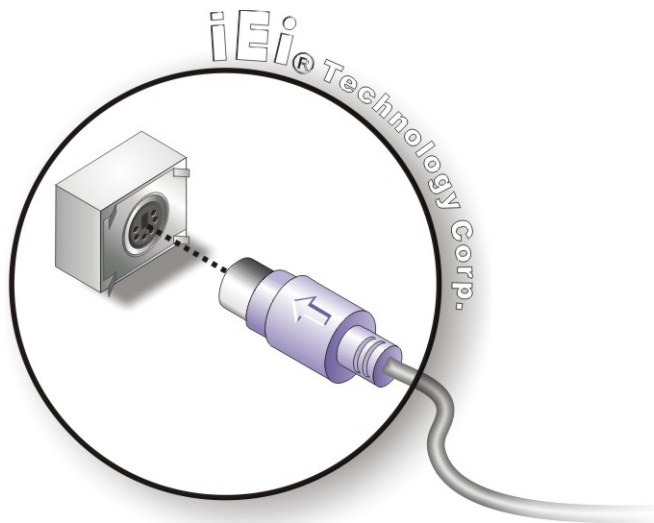

Figure 4-11: PS/2 Connector
Step 3: Insert the PS/2 connector Once the connectors are properly, insert the PS/2 connector from the keyboard/Mouse into the PS/2 connector on the WSB-PV-D4251/D5251. See **Figure 4-11**.